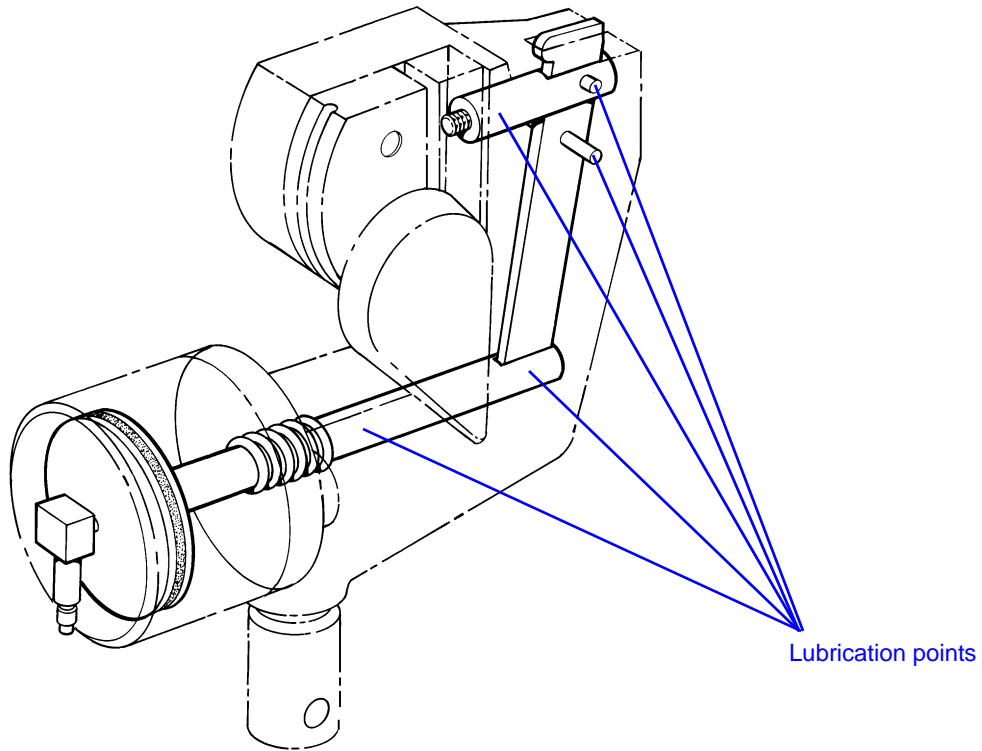

Figure 4-1. Lubrication Points
- Refer to Figure 4-1 on page 4-2 for the lubrication points.